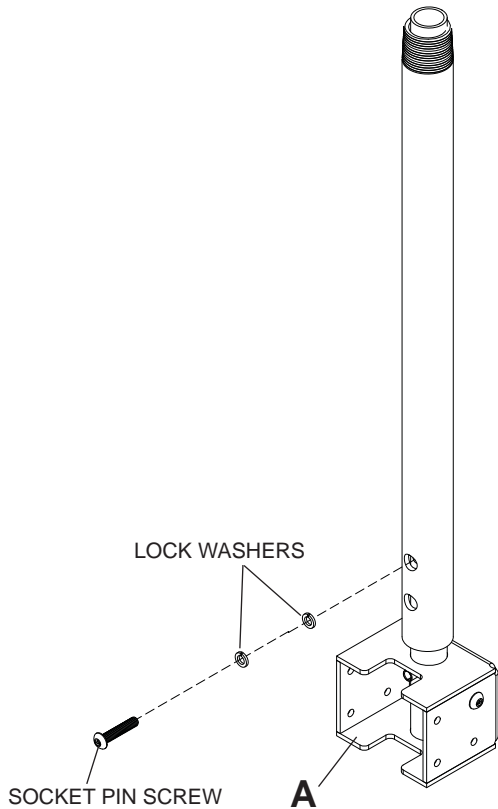

figure 2-2
To adjust height of tube assembly (A), remove socket pin screw and two lock washers using 4 mm security allen wrench (G) and adjust to desired height as shown in figure 2-2.